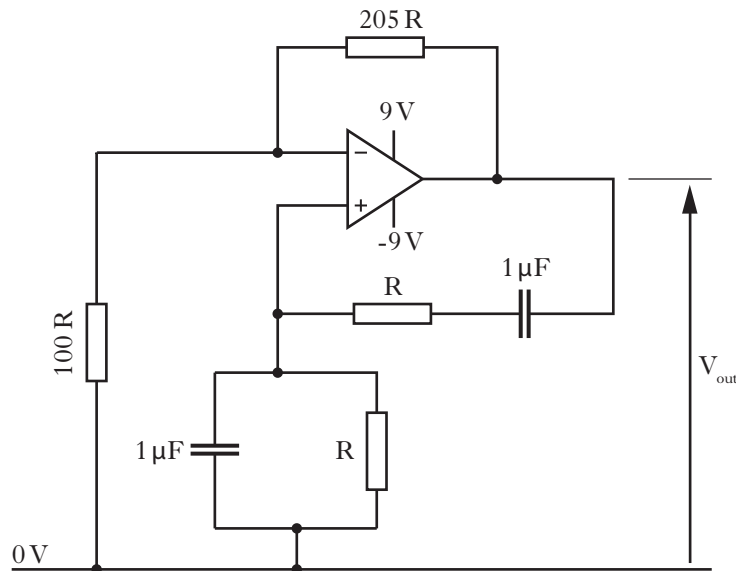

Figure Q1(b)
- (a) (i) State the name of the circuit shown in Figure Q1(b). 1